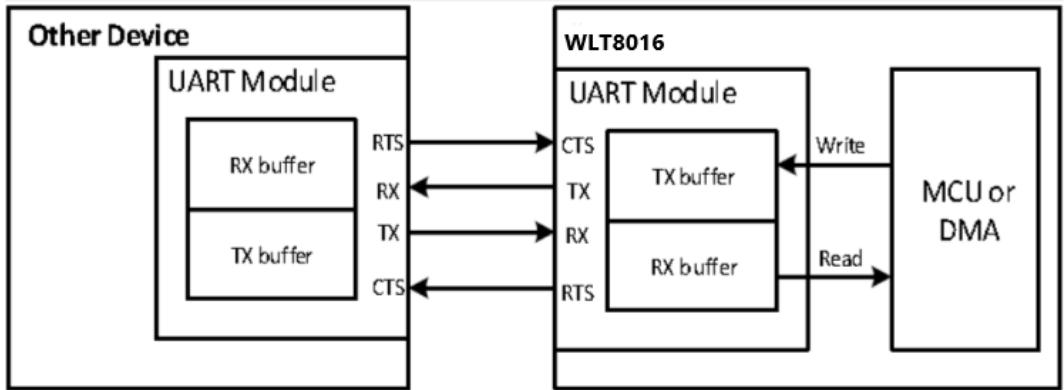

Figure 3-2 UART communication
- As shown in figure 3-2, the sent data is written to the TX buffer, and the UART module transfers the data from the TX buffer through the TX foot